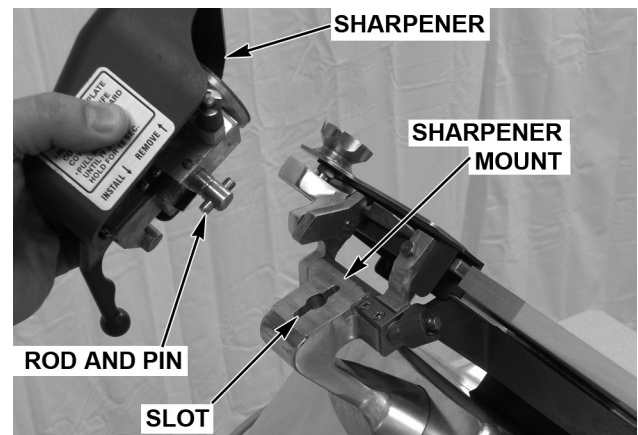

Fig. 27
- Install the Sharpener by lowering it back onto the Sharpener Mount so the Rod and Pin on the bottom of the Sharpener fit the Slot in the Sharpener Mount (Fig. 27).